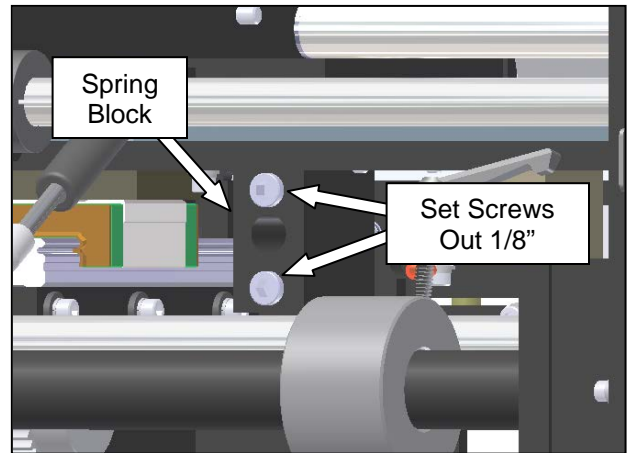

Figure 3-309. Stripper Plate Spring Block
- Locate the spring blocks, which mount the stripper plate to the machine (these can be accessed through the rear of the machine). The set screws for the gripper buttons on the back of the spring blocks should protrude 1/8" from the back of the block (Figure 3-309).